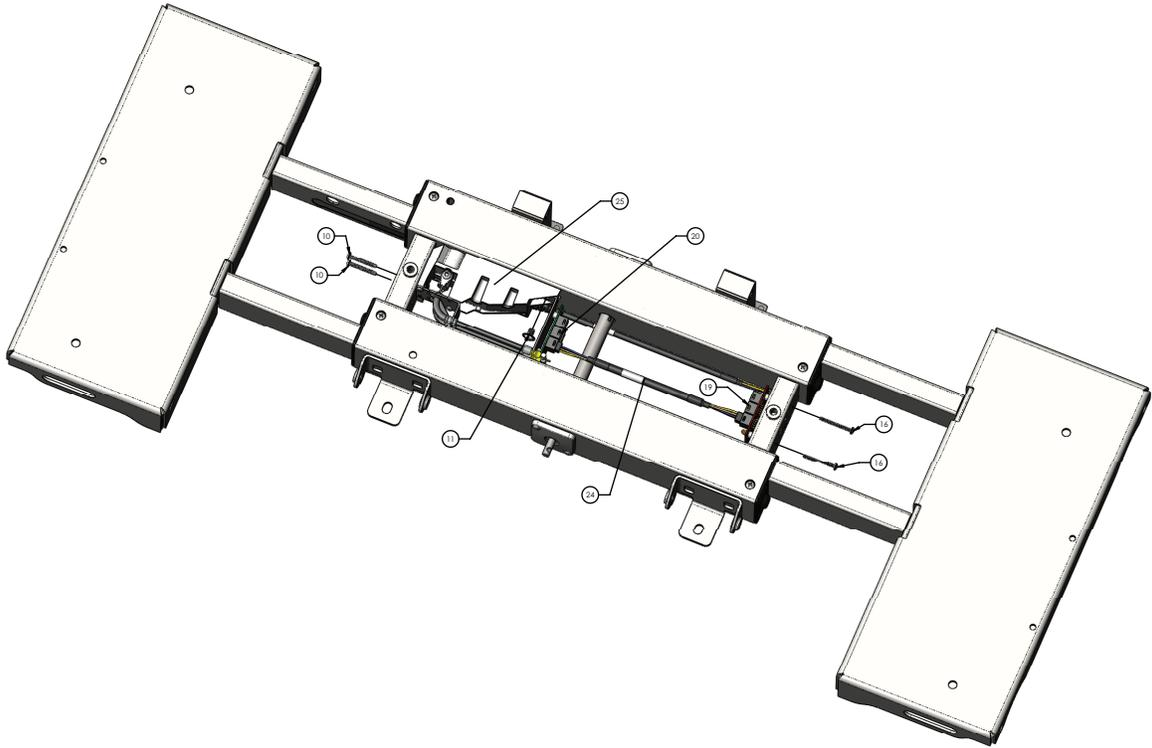

Figure 19 – DPM board replacement, mid
10. Using a T25 Torx driver, remove and save the screw (11) that secures the DPM assembly (25) to the seat frame (Figure 19).
11. Using a T20 Torx driver, remove and save the two screws (10) that secure the DPM assembly (25) to the seat frame (Figure 19).